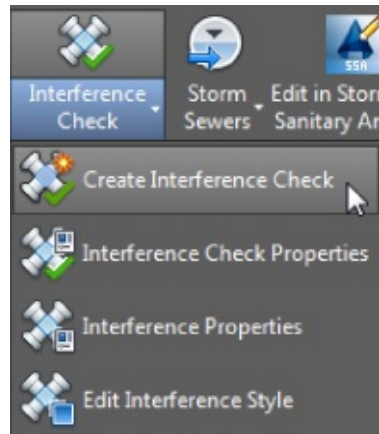

Figure 13.66 Creating an interference check
2. Select a part from either network, and on the Pipe Networks contextual tab ► Analyze panel, choose Interference Check ► Create Interference Check, as shown in Figure 13.66.